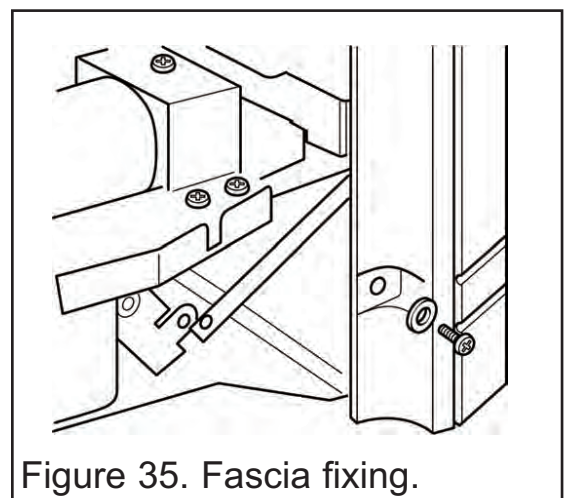

Figure 35. Fascia fixing.
2. Remove the two screws and washers securing the bottom of the fascia to the sides of the convection box (See figure 35).